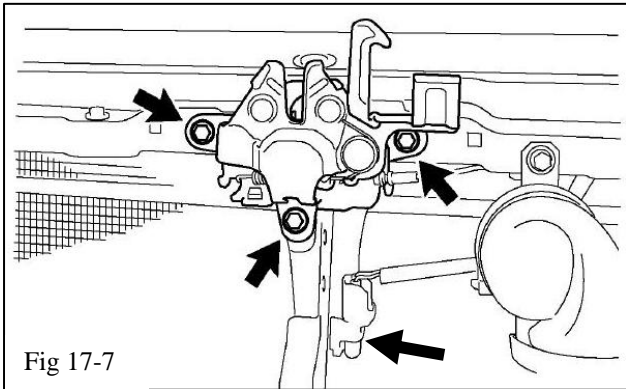

Fig 17-7
- (h) Remove the 3 bolts and the hood lock assembly (Fig 17-7). Let the hood lock assembly hang loose on the cable. Retain these parts.
- (i) Remove the Temperature sensor from the radiator support (Fig 17-7).